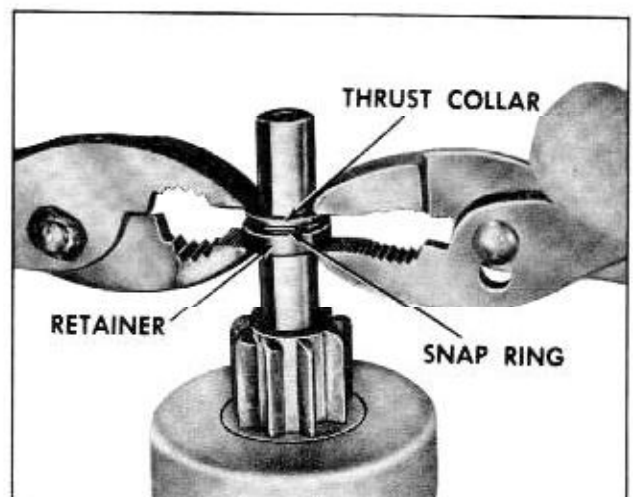

Fig. 13-51 Installing Retainer and Snap Ring
- f. Position retainer and thrust collar next to snap ring. Using two pliers, grip retainer and thrust collar and squeeze until snap ring is forced into retainer and is held securely in groove in armature shaft. (Fig. 13-51)